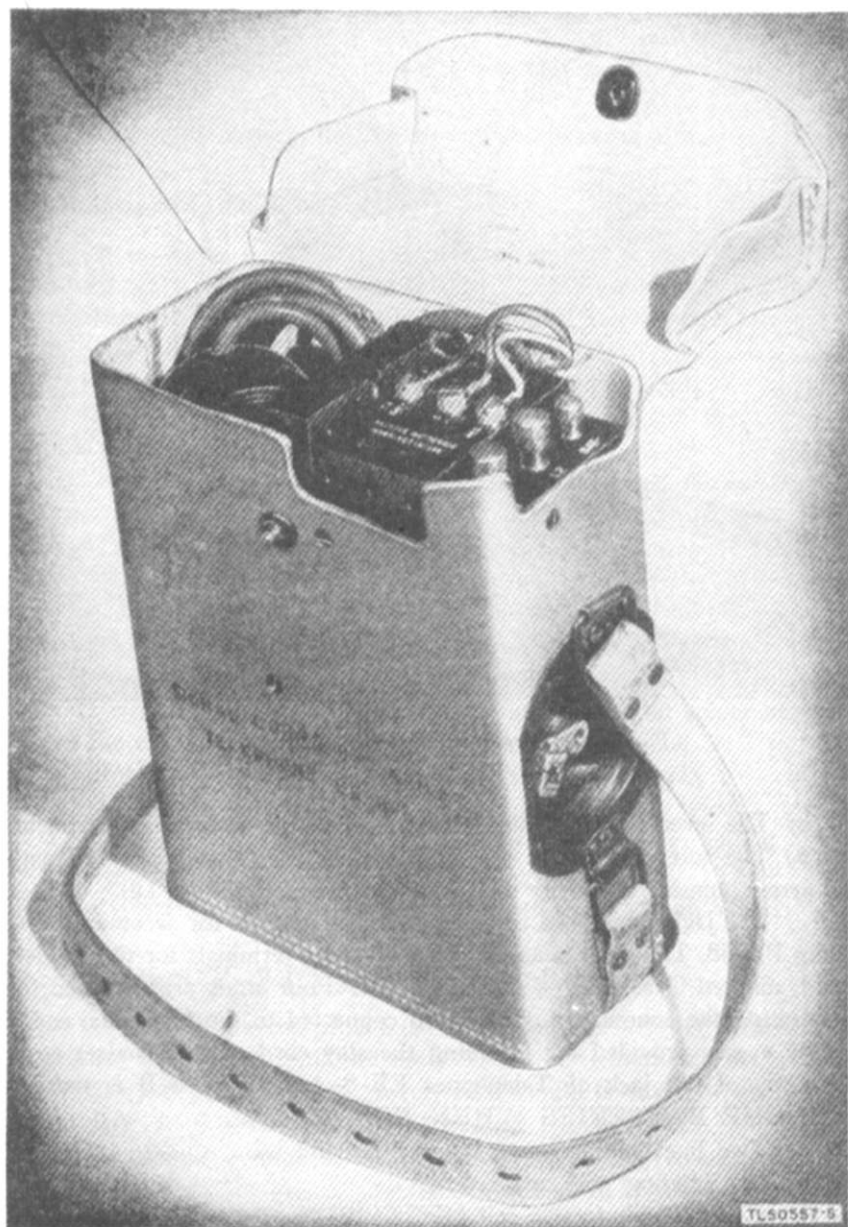

Figure 2. Telephone EE-8-B with leather case.
b. CASE. The case containing Telephone EE-8-(*) is made of leather or canvas and has an adjustable carrying strap. (See figs. 2 and 3.) The cover is hinged at the back, overlaps the sides and front, and fastens in front with a snap fastener. The space within the case not occupied by the body is used for storing the handset.